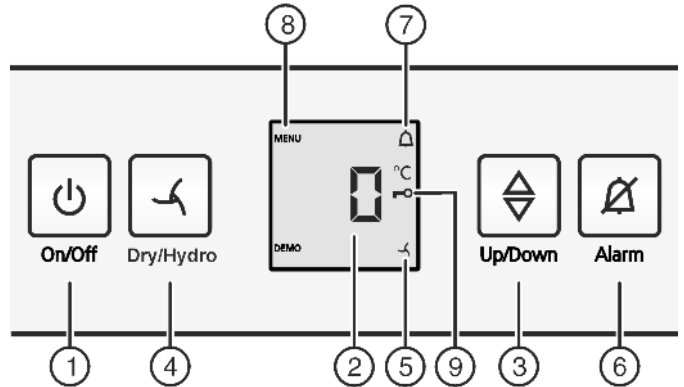

Fig. 2
- ▶ Press On/Off button Fig. 2 (1).
- ▶ To activate setting mode: press the Dry/Hydro button Fig. 2 (4) for approx. 6 seconds.
- ▷ The menu symbol *Fig. 2 (8)* shines.
- ▶ Briefly press the Dry/Hydro button *Fig. 2 (4)* to confirm.
- ▶ Briefly press the Dry/Hydro button *Fig. 2 (4)* to activate the child lock.
- ▷ The child lock symbol *Fig. 2 (9)* shines. **c** flashes in the display.
- ▶ Briefly press the Dry/Hydro button *Fig. 2 (4)* to deactivate the child lock.
- ▷ The child lock symbol *Fig. 2 (9)* goes out. **c** flashes in the display.
- ▶ To deactivate the setting mode: Press the On/Off button *Fig. 2 (1)*.
- ▶ Press alarm button *Fig. 2 (6)*.